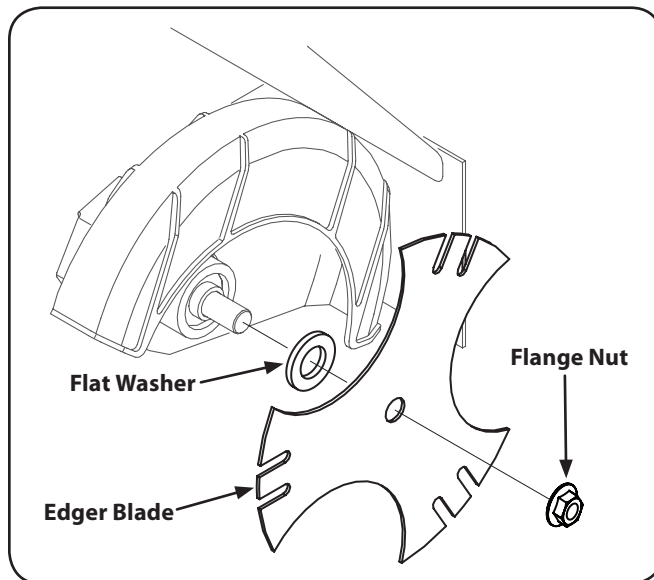

Figure 6-1
1. Use two wrenches (one wrench to prevent the hex bolt head from spinning and the other to remove the flange nut) to remove the edger blade. Refer to Figure 6-1.